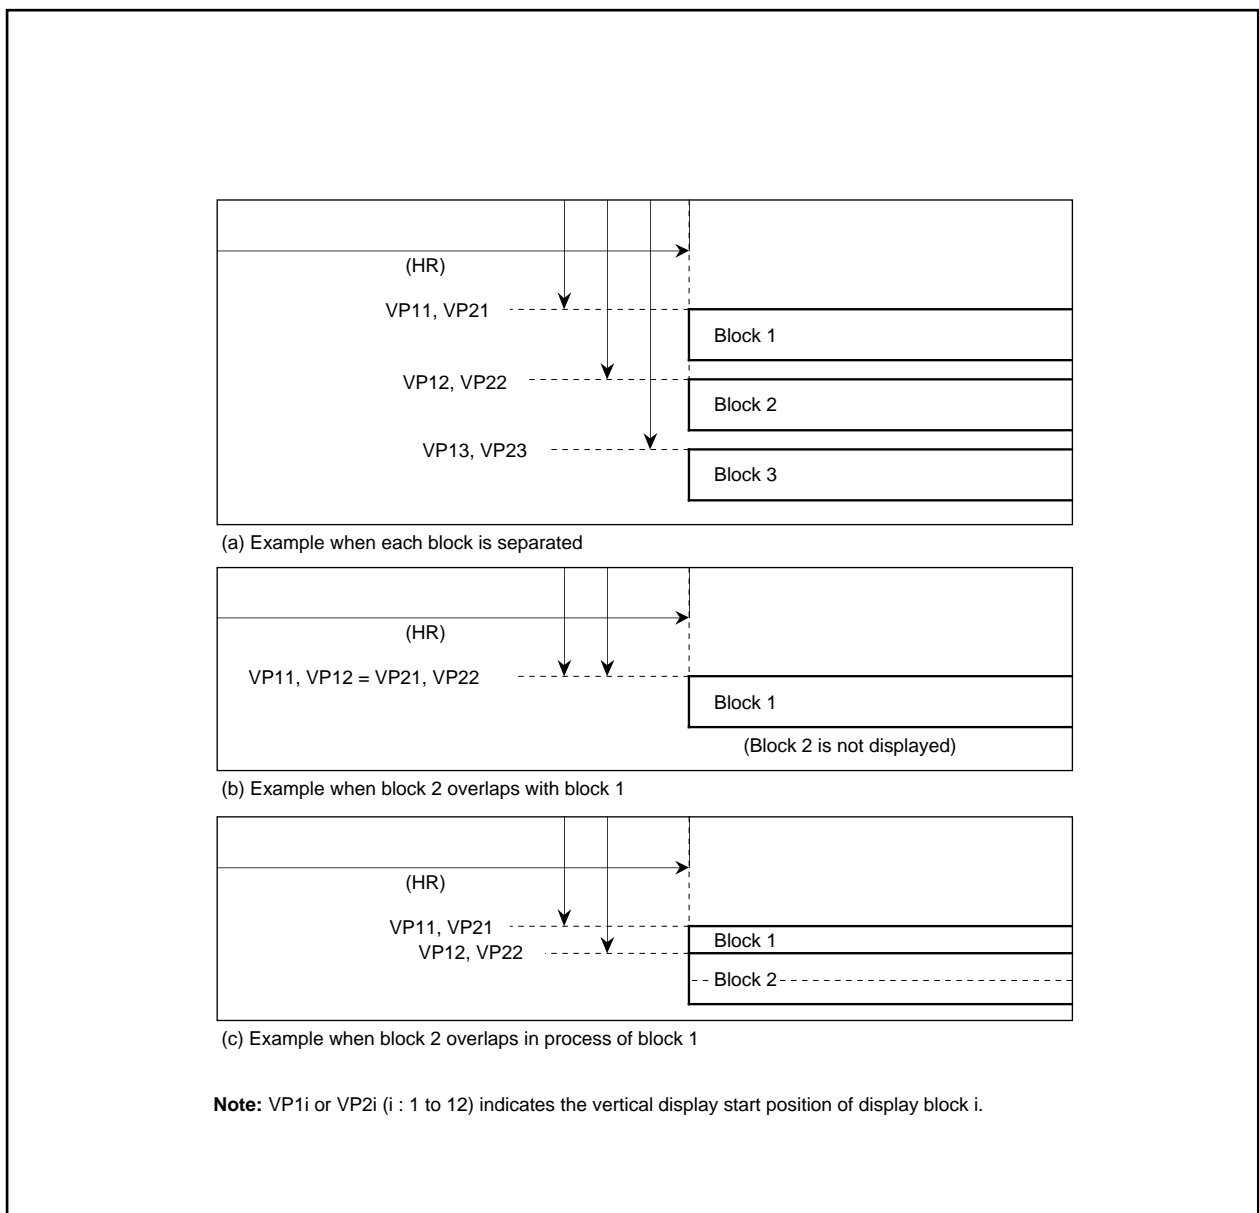

Fig. 59. Display Position
- ① When the display position is overlapped with another block (Figure 59, (b)), a lower block number (1 to 12) is displayed on the front.
- ② When another block display position appears while one block is displayed (Figure 59 (c)), the block with a larger set value as the vertical display start position is displayed. However, do not display block with the dot size of 2T_c X 2H or 3T_c X 3H during display period (*) of another block.